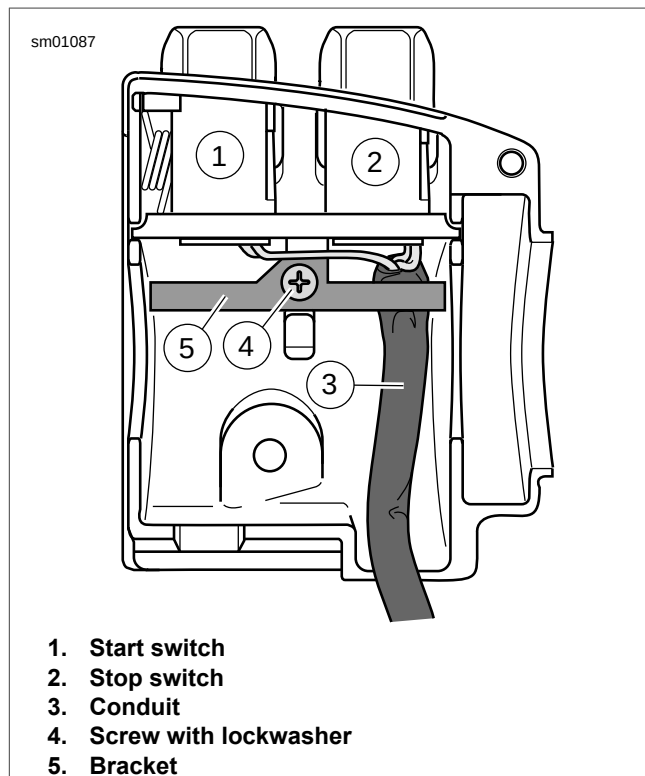
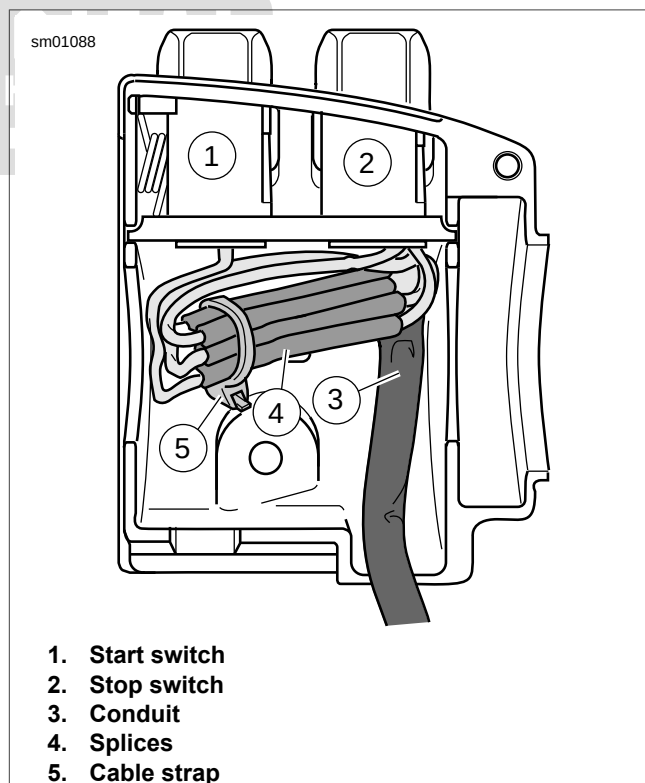

Figure 6-139. Upper Housing Without Splices
Figure 6-140. Upper Housing With Splices
1. See Figure 6-139. From inside the switch housing, remove the screw with lockwasher (4) to release the bracket (5). Remove the bracket and switch assembly from the housing.
2. Move cable conduit (3) from beneath wing of bracket. Cut wires 0.25 in (6.4 mm) from old switches (1, 2). Discard old switch and bracket assembly.
3. Slide conduit forward over cut ends of switch wires and cut off 0.5 in (12.7 mm) of conduit (3) material. Push conduit back to access switch wires.
4. See Figure 6-140. Separate **new** engine stop switch (2) and engine start switch (1) wires into two bundles.
6. See Figure 6-140. Loop switch wires and bundle splices.
7. See Figure 6-139. Route wires downstream of splices beneath wing on engine stop switch side of bracket.
8. See Figure 6-140. Install a **new** 7.0 in (177.8 mm) cable strap (5) beneath wing on engine start switch side (1) of bracket and capture wire splices (4).
10. See Figure 6-139. Install screw and lockwasher (4) to secure bracket (5) inside housing. Verify that wing on engine stop switch (2) side of bracket captures edge of conduit (3) as shown.